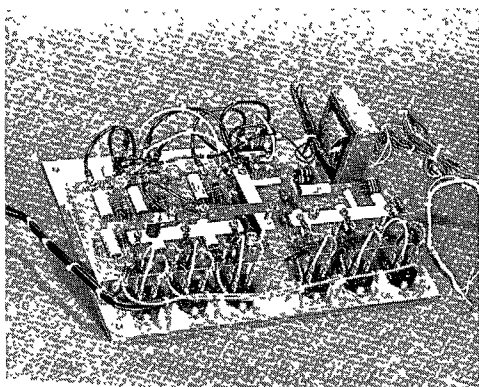

FIGURE 38D
- a. For 1 thru 3 HP controllers (plate heatsink), remove the four nuts with captive washers that fasten the plate to the mounting brackets and pull out the plate heatsink. (It is not necessary to remove the mounting brackets that are fastened to the rear case.) See Figure 38D.